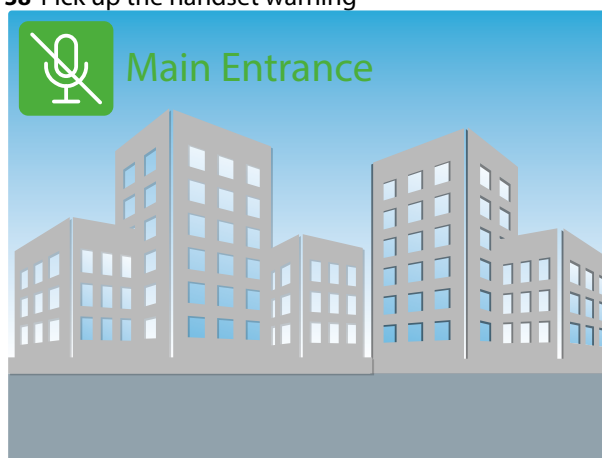
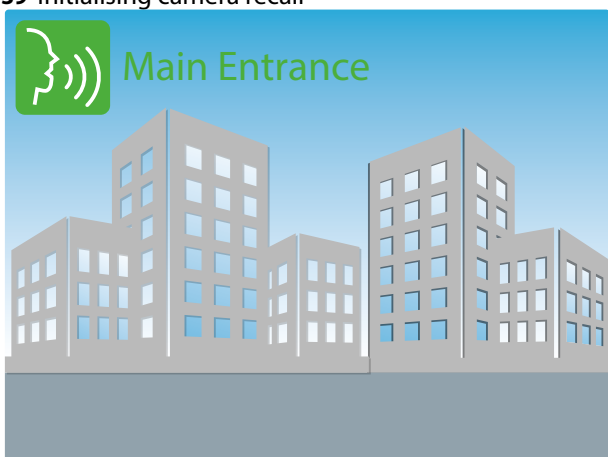

Fig. 40 Connection established with handset mic muted
Fig. 41 Full duplex speech enabled
- Once connected, the display shows the video coming from the door panel and through the handset can be heard the speech from outside while the speech from inside is mute (Fig. 40).
- To enable the speech from inside and start the conversation, press and keep pressed the  button until the display shows the speech symbol (Fig. 41).
- With the speech mute (Fig. 40) or open (Fig. 41), by pressing momentarily the  button you can manually take a picture of the visitor (Fig. 42).